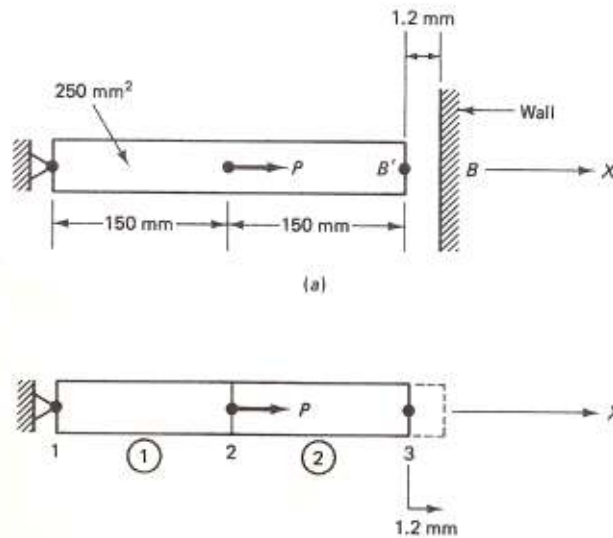

Fig. 2
- (b) In Fig. 2, a load  $P = 60 \times 10^3 \text{ N}$  is applied as shown. Determine the displacement field, stress and support reactions in the body. Consider  $E = 20 \times 10^3 \text{ N/mm}^2$ . 06